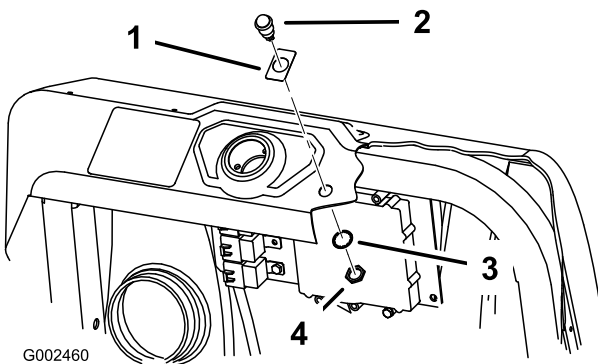
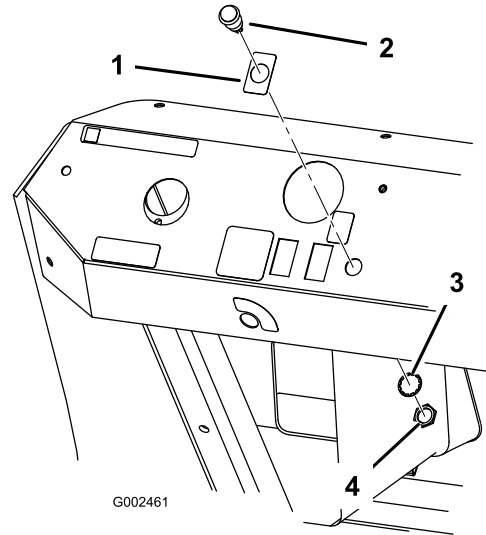

Figure 11
Figure 12
1. Install decal 94-8582 over the light hole in the dash (Figure 11 for the Multi Pro 1200 and 1250 and Figure 12 for the Multi Pro 5600 and 5700).
3. Install the light in the dash and secure it using the washer and nut (Figure 11 or Figure 12).